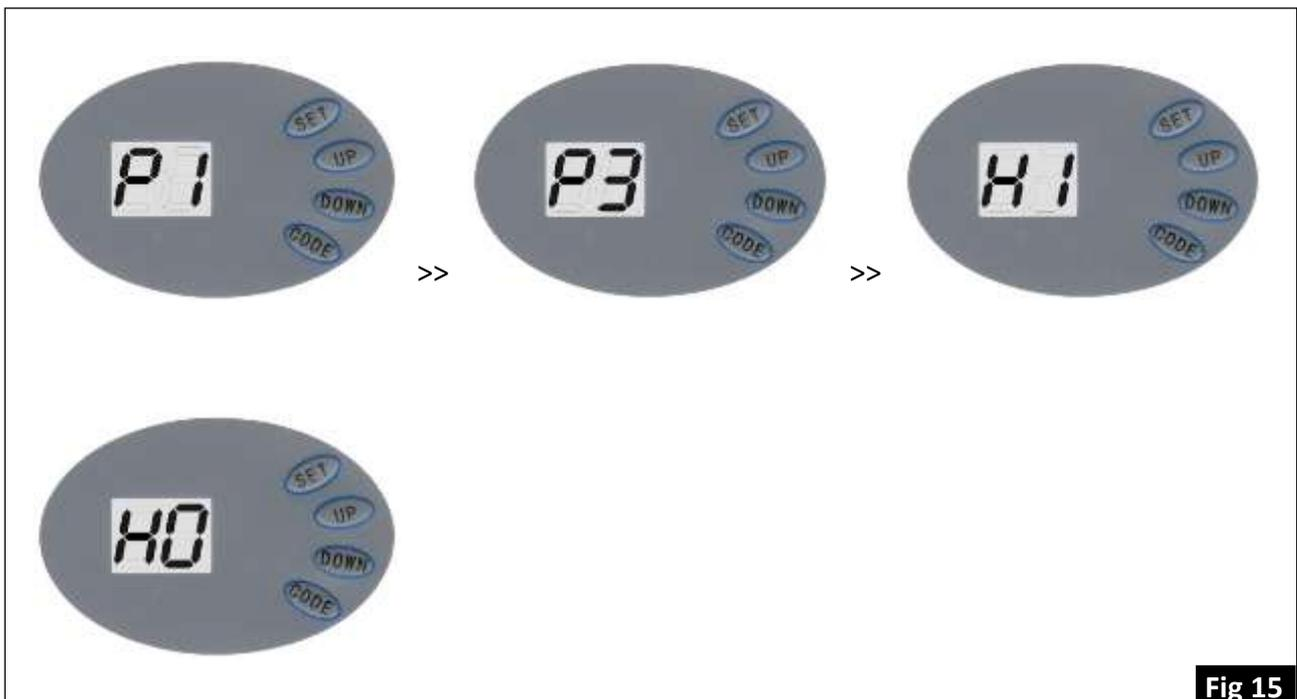

Fig 15
- 20.1 To enable Safety Beam function press and hold “Set” button until “P1” is displayed on the LED Screen. (Fig.15).